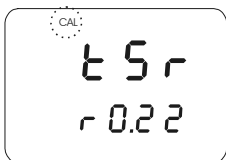

Figure 9: Successful field calibration unlock
3. The “CAL” indicator appears momentarily with the version-model window to indicate that the user-calibration function has been unlocked successfully (Figure 9).